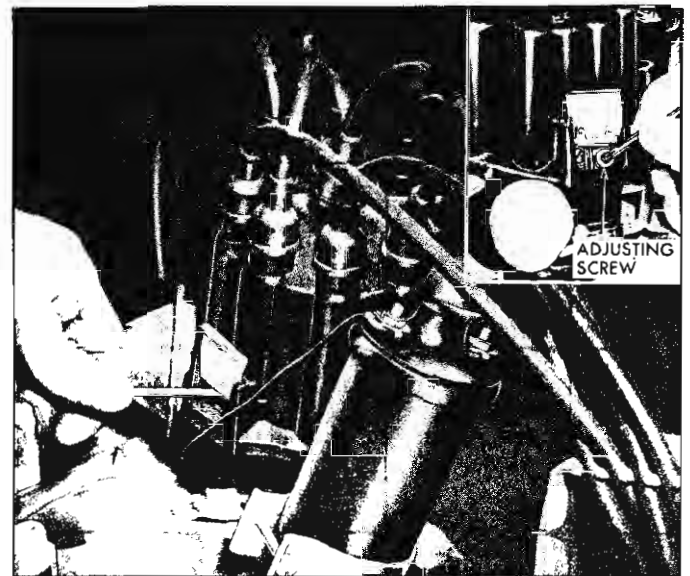

Fig. 27—Setting Eight Cylinder Dwell
- a. With engine running at idle, raise the adjusting screw window (fig. 27) and insert an Allen wrench in the socket of the adjusting screw.